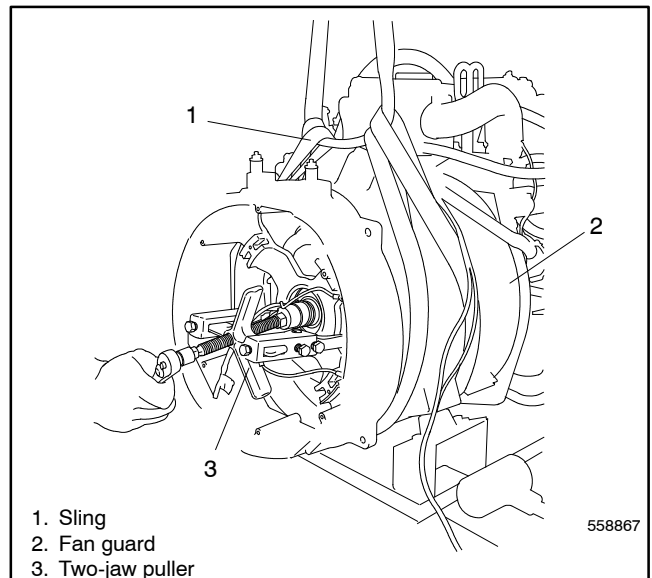

Figure 15-7 Stator Assembly Removal
11. Install a sling capable of handling the weight of the stator housing on the stator housing. See Figure 15-7.
12. Use a two-jaw puller to pull the end bracket/stator assembly from the bearing on the rotor shaft. See Figure 15-7.